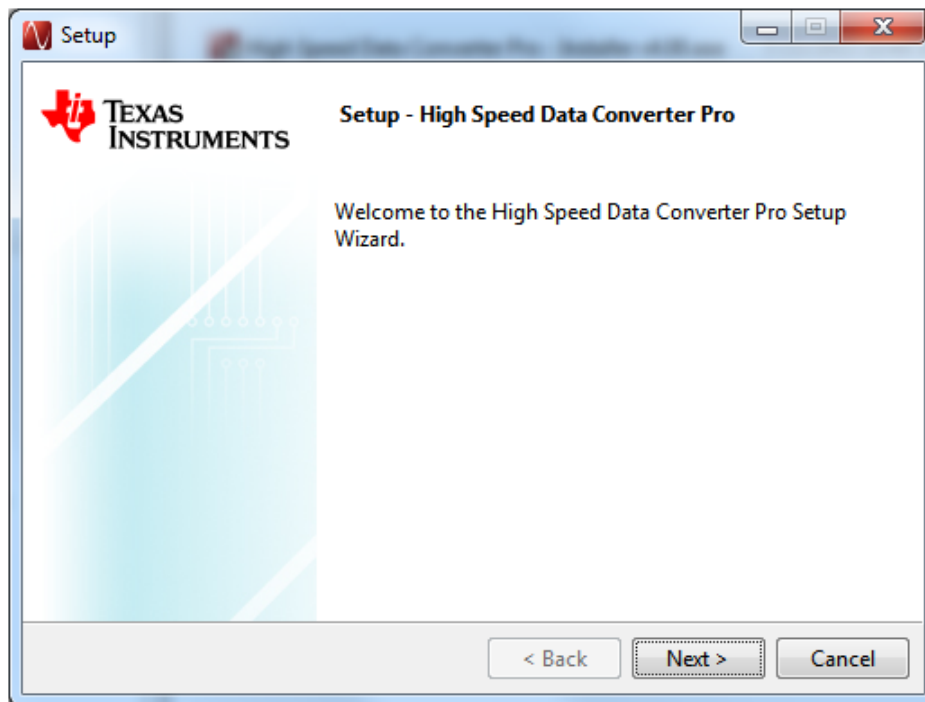

Figure 25. HSDCPro Install (Begin)
1. Unzip the saved file and run the installer executable (*Run as Administrator*) to obtain the menu shown in Figure 25.